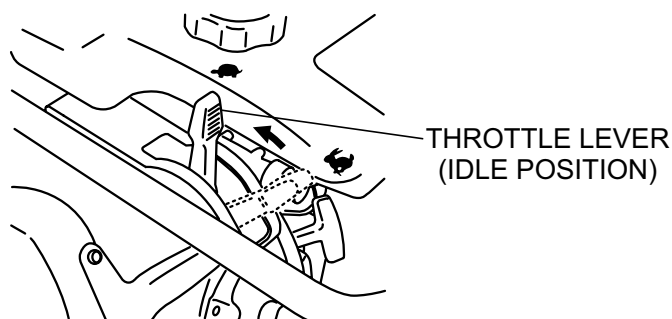
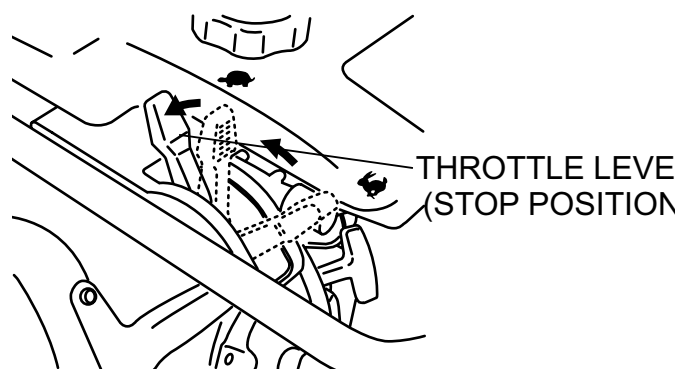

Figure 6. Throttle Lever (Idle Position)
Figure 10. Throttle Lever (Stop Position)
1. Slide the throttle lever from the stop to the idle position (🐞) (Figure 6). This opens the fuel cock and the engine electrical circuit is turned on automatically.
3. To stop the tamping action, move throttle lever quickly from **START** to **IDLE** position (Figure 6).
1. Move throttle lever quickly from the **START** to **IDLE** position (Figure 6) and run the engine for three minutes at low speed. After the engine **cools**, move the throttle lever to the **STOP** position (Figure 10). The engine will stop and the fuel cock is automatically closed.